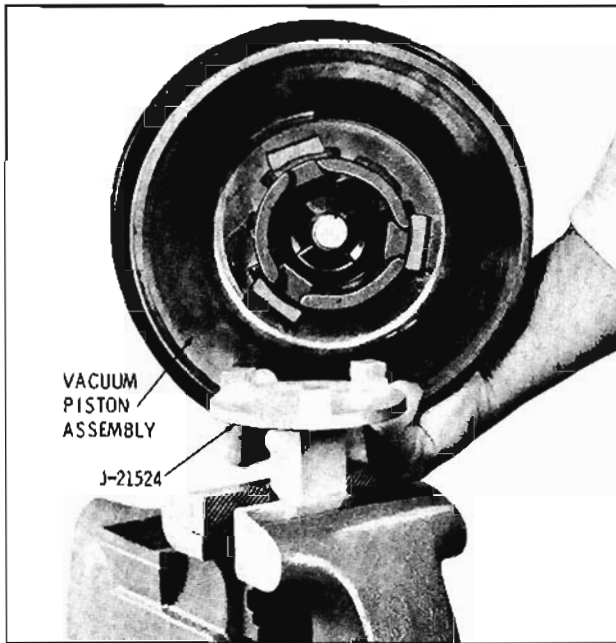

Fig. 11-32 Positioning Vacuum Piston on Tool J-21524
3. Install Tool J-21524 in a vise. Position the vacuum piston assembly on Tool J-21524 so that the three lugs on the tool fit into the three notches in the vacuum piston. (Fig. 11-32)